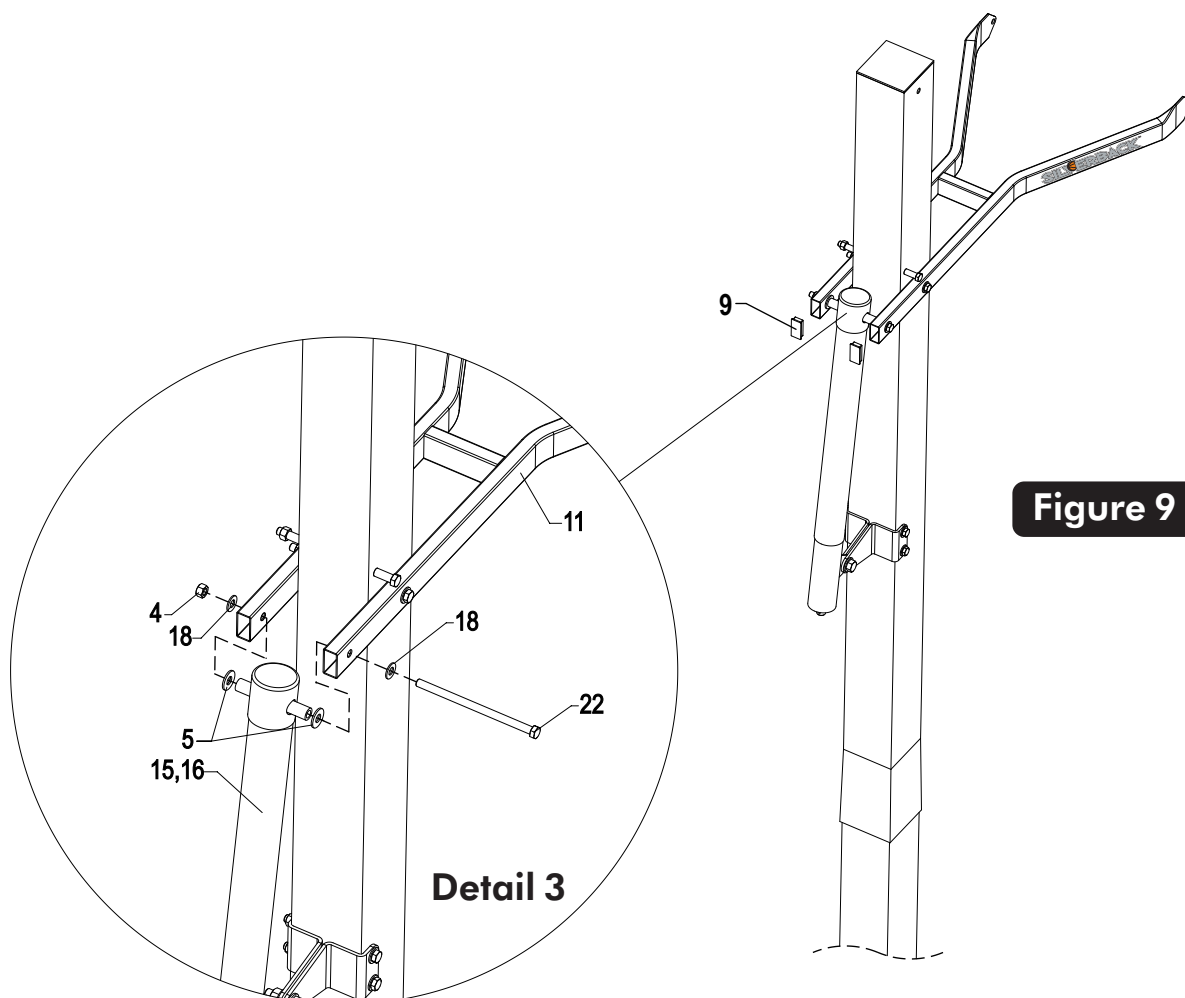

Figure 9
17. Secure Actuator (#16) to Lower Arms (#11) using one bolt (#22), two flat washers (#18), two plastic washers (#5) and one lock nut (#4). See **Figure 9** and **Detail 3**. Tighten both bolts (#22) snug but, **do not over tighten. Board Arms must pivot freely.**
18. Insert Two Tube Plugs (#9) into open ends of Lower Arms (#11). It may be necessary to use a rubber mallet to tap them in. See **Figure 9**. **Note:** Tube plugs may be pre-installed by the factory.